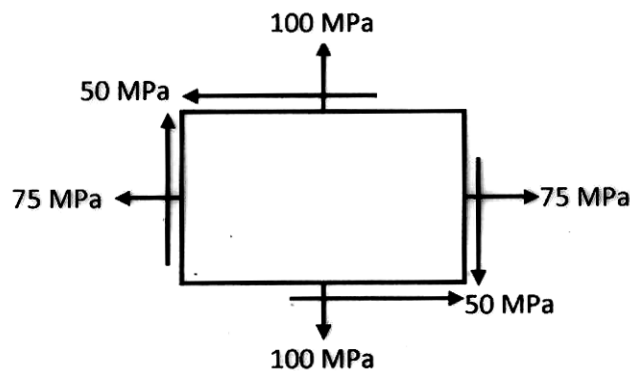

Fig. 5
8. (a) Determine the principal stresses and location of principal planes for an element as shown in the Fig. 5. Use Mohr's circle. [10]